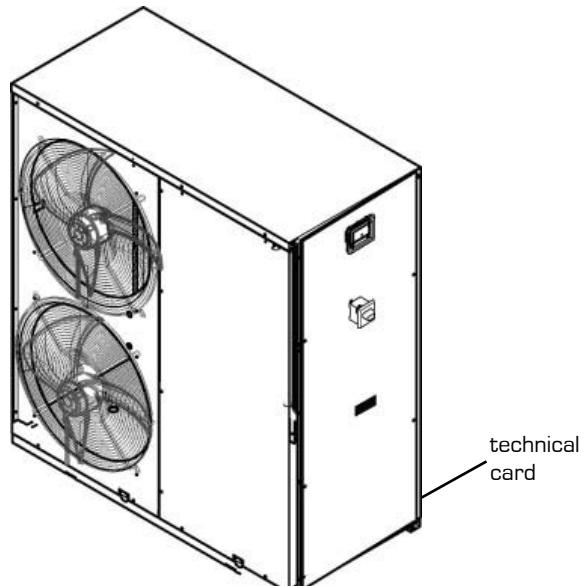

Fig. 1
- Check the electrical characteristics shown on the registration plate (fig.1) before making the electrical wirings. Read the instructions in the specific section about electrical wirings.